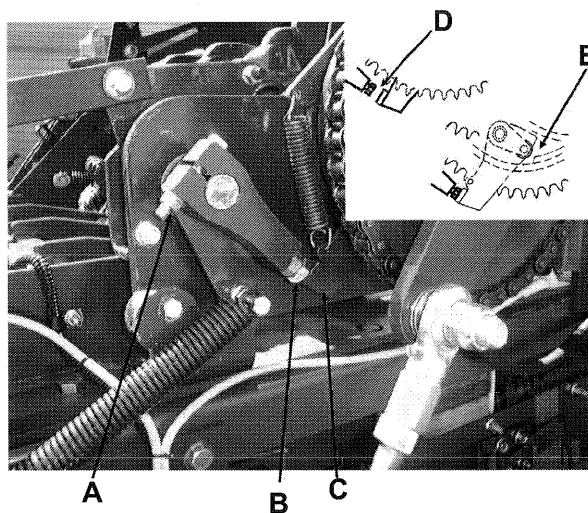

Fig.30
B. Loosen clamp bolt "A," to position stop bolt "B," square to the face of clutch pawl "C," Fig.30.
C. The clutch pawl should have approximately 1/2" (13 mm) clearance at "D," when depressed. The clutch pawl roller and the knotter clutch stop cleat should have 1/8" (3 mm) clearance at "E." Adjust with bolt "B" Fig.30.